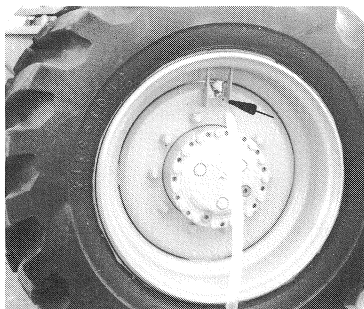

Fig. 60
5. Operate vent knob at the tyre filling valve from time to time (Fig. 60/arrow).